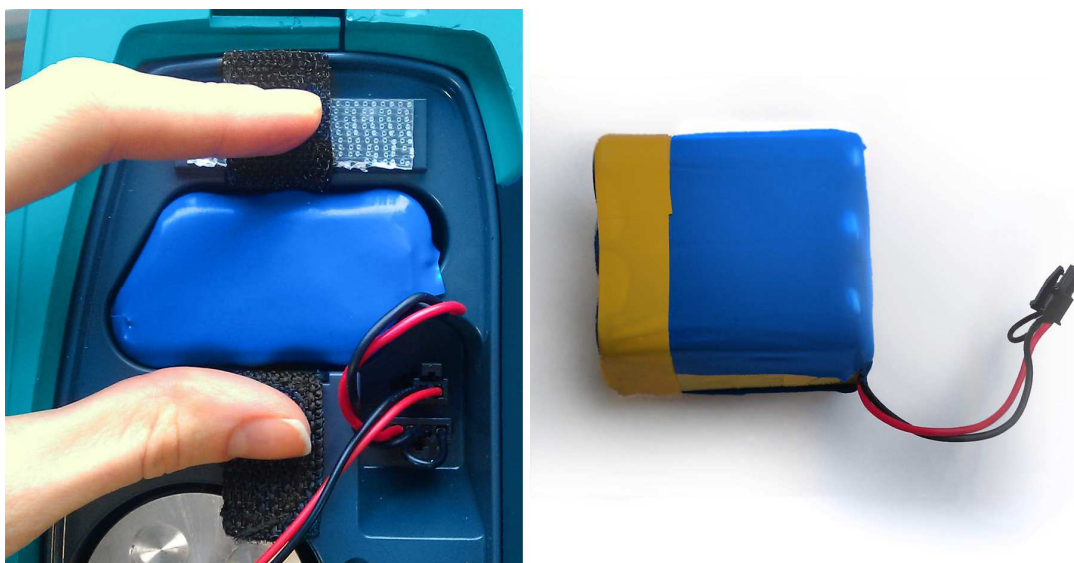

Fig. 2-26 – Removing the built-in battery
- Detach the battery fixing tape and pull the built-in battery out of its compartment (see Fig. 2-26);